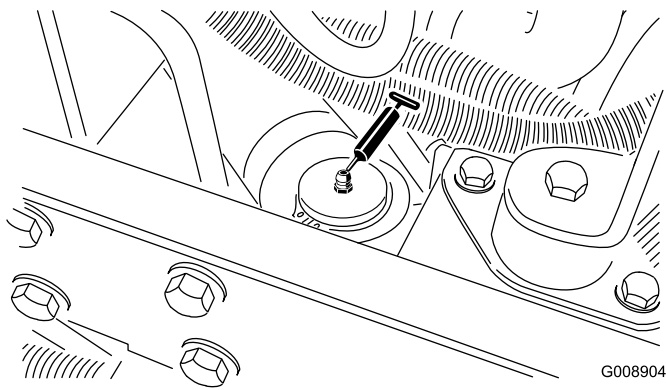

**Figure 34**
- Right front lift arm pivot and lift cylinder (2) (Figure 34)